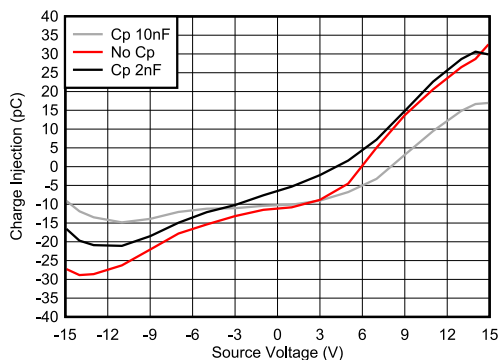

图 7-2. Charge Injection Compensation
The TMUX7219-Q1 contains specialized architecture to reduce charge injection on the source (Sx). To further reduce charge injection in a sensitive application, a compensation capacitor (Cp) can be added on the drain (D). This will ensure that excess charge from the switch transition will be pushed into the compensation capacitor on the drain (D) instead of the source (Sx). As a general rule, Cp should be 20× larger than the equivalent load capacitance on the source (Sx). 图 7-2 shows charge injection variation with source voltage with different compensation capacitors on the drain side.